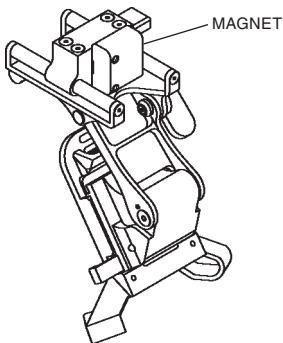

FIGURE 2.16. LOCATING THE MAGNET
- If the magnet is not removed, turn the ruggedized metal helmet mount in to unit maintenance for removal. See Figure 2.16. for location of magnet.